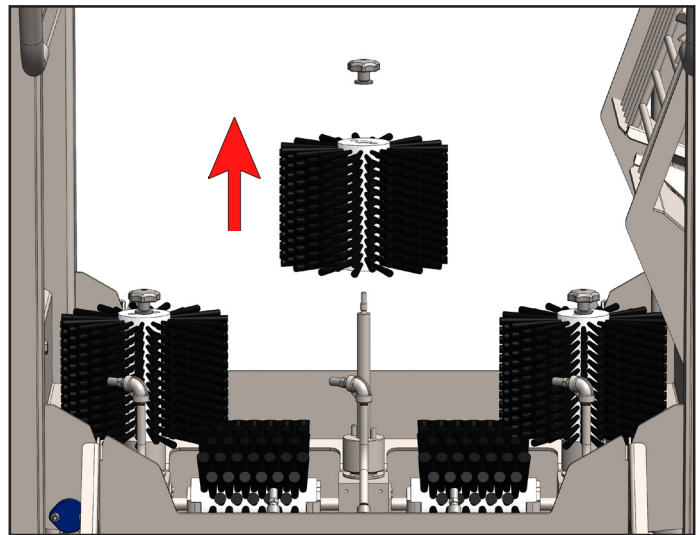

Fig. 9.1: Removing vertical brushes
2. Remove the three vertical brushes by unscrewing the stainless knobs at the top of each brush and lifting them up and off of their shafts [Figure 9.1]